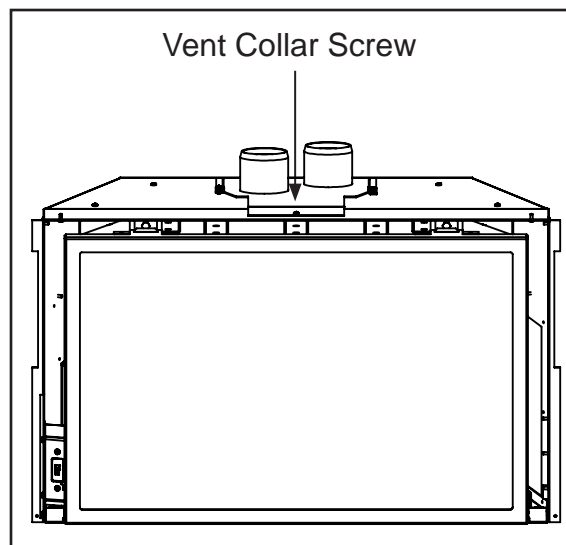

Figure 32: Vent Collar Plate Screw Location.
8. Apply a bead of stove cement sealant to the Ø3" (76mm) pipe of the exhaust vent terminal. Slide the flex liner onto the vent terminal and secure with three (3) sheet metal screws evenly spaced.
9. Place a bead of high temperature silicone on the intake collar of the vent terminal. Slide the Ø3" (76mm) flex intake liner over the collar, secure the flex liner with three (3) sheet metal screws evenly spaced. Secure the vent terminal to the chimney using adequate sealant, and according to local building codes.
10. If the fireplace opening is lower than 24" (610 mm), remove the vent collar plate from the top of the insert by unscrewing the 5/15" screw located on the center top of the stove above the door opening (see Figure 32). Slide the collar plate backwards. Properly secure the vent collar plate to the flexible vent pipe liner(s) previously installed in the chimney. Be careful not to over-stretch the liner(s).
11. Apply a bead of stove cement sealant to the top section of the Ø3" (76mm) exhaust vent collar plate. Slide the Ø3" (76mm) flex vent over the flue collar and secure with three (3) sheet metal screws evenly spaced.
12. Place a bead of high temperature silicone on the intake collar of the fireplace, slide the Ø3" (76mm) flex intake liner over the collar, secure the flex liner with three (3) sheet metal screws evenly spaced.